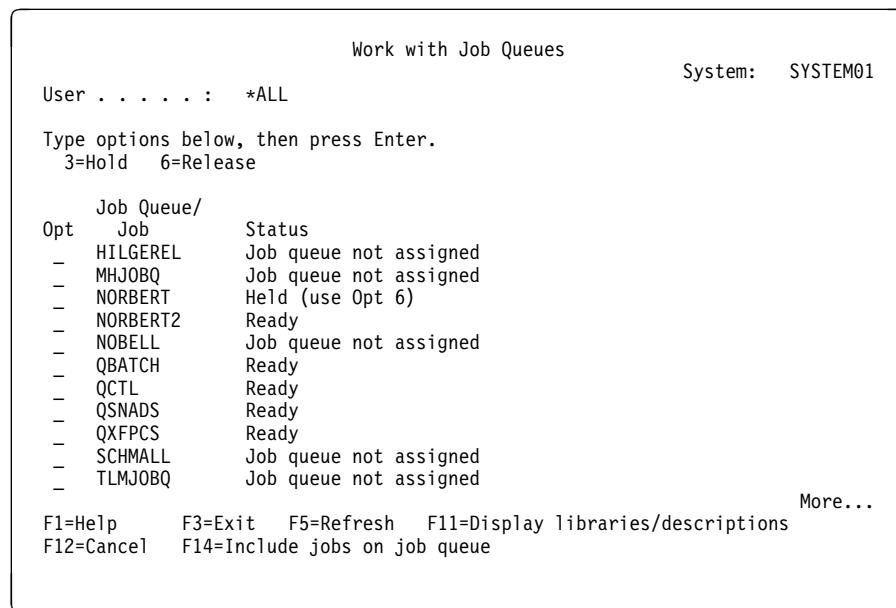

Figure 2-7. Work with Job Queues Display - Summary
2. On the Work with Jobs display, press F22 (Work with job queues). Figure 2-7 shows the Work with Job Queues display.